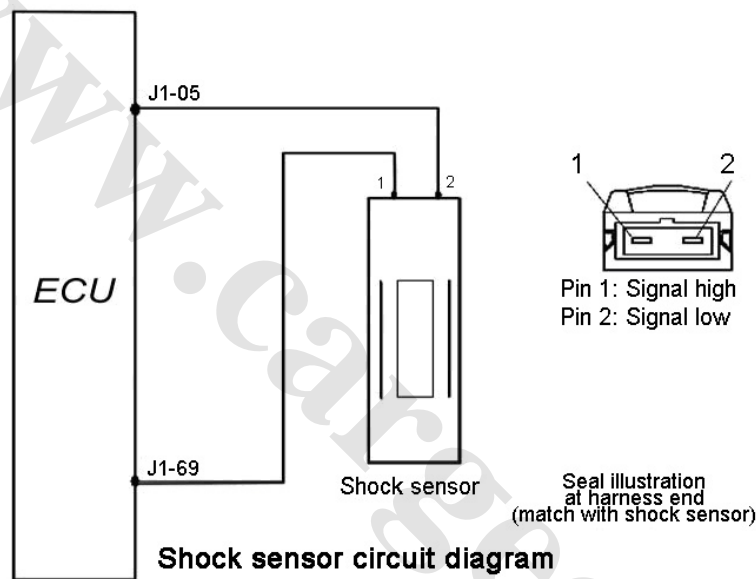

Fig. 1-7
### (3) Connection of wiring diagram (Fig. 1-7)